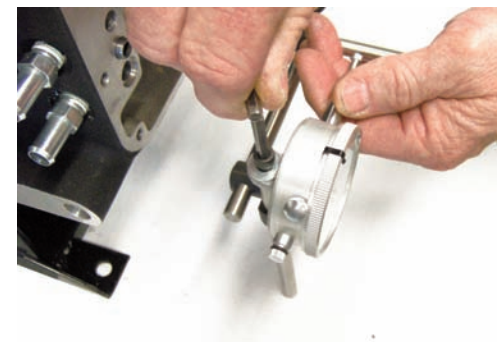

FIG 7
7. With screw No.8362 and washer No.1683 placed through the mounting hole on the backside of dial Indicator No.940-4 thread screw with washer into the end of mounted shaft No 940-1, and Torque to 44" in-lbs. **See Fig 7.**